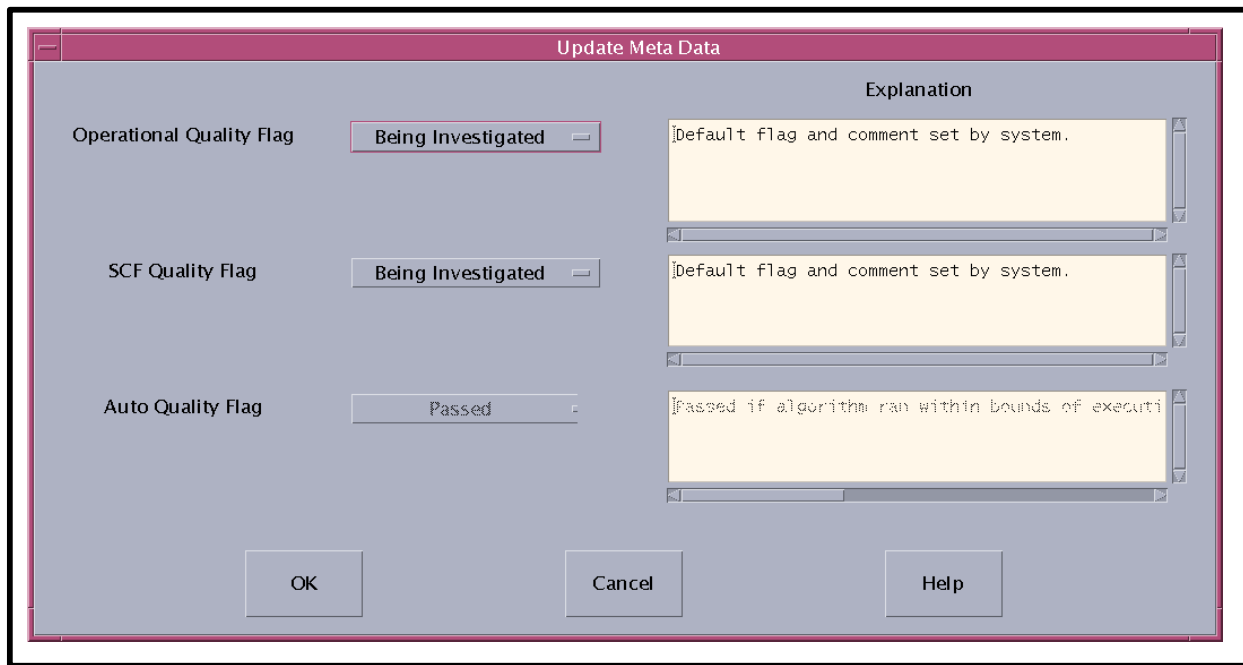

Figure 85. QA Monitor Update Meta Data Window
- The **Update Meta Data** window (Figure 85) is displayed.